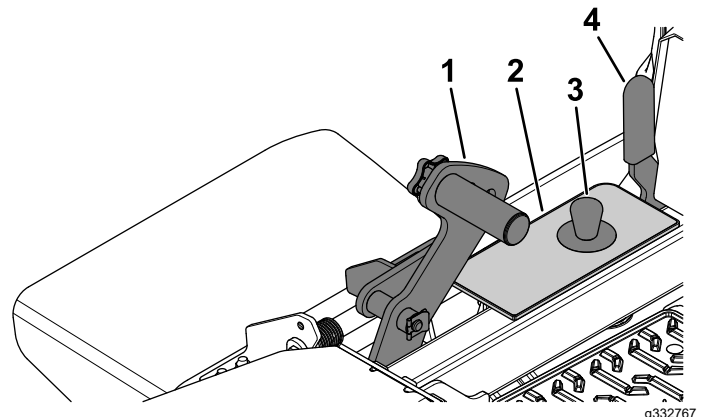

Figure 29
1. Push the deck-lift pedal fully forward to lock the mower deck in the TRANSPORT position (also the 140 mm/5-1/2 inches cutting height position) as shown in Figure 29.
2. To adjust, remove the pin from the height-of-cut bracket (Figure 29).
3. Select a hole in the height-of-cut bracket corresponding to the height of cut desired, and insert the pin (Figure 29).